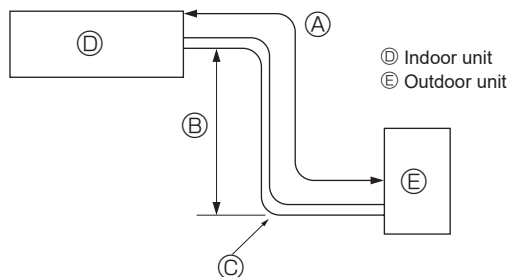
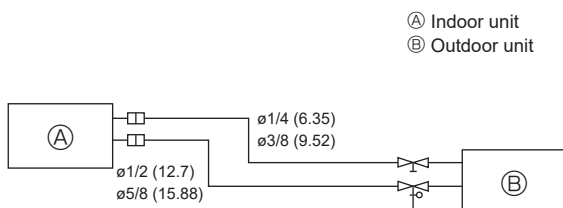
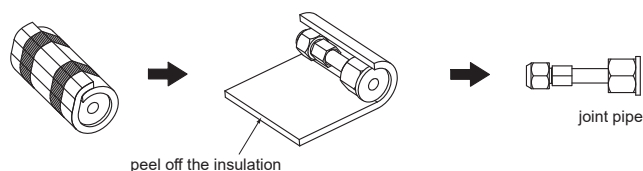

Fig. 4-1
Fig. 4-2
Fig. 4-3
4.1. Refrigerant pipe (Fig. 4-1, Fig. 4-2, Fig. 4-3)
- Use the joint pipe (Fig. 4-3) included with the side cover with outdoor unit to connect the liquid pipe of indoor unit.